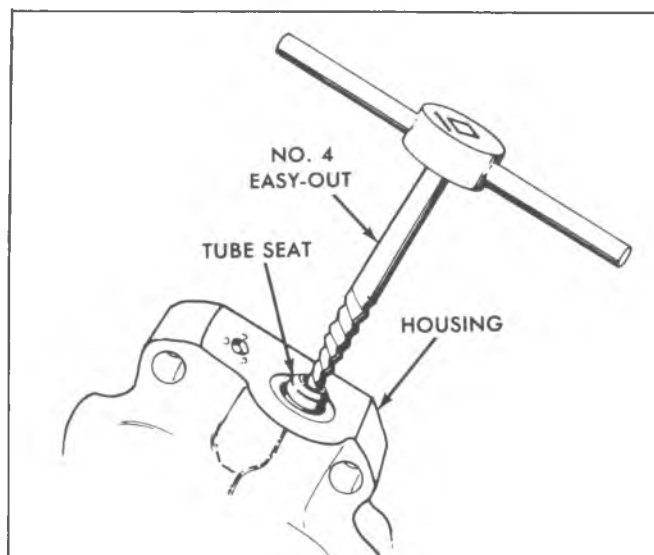

Fig. 5-10E-Removing Tube Seat
19. Remove the tube seats using No. 4 easy-out as shown in Figure 5-10E.